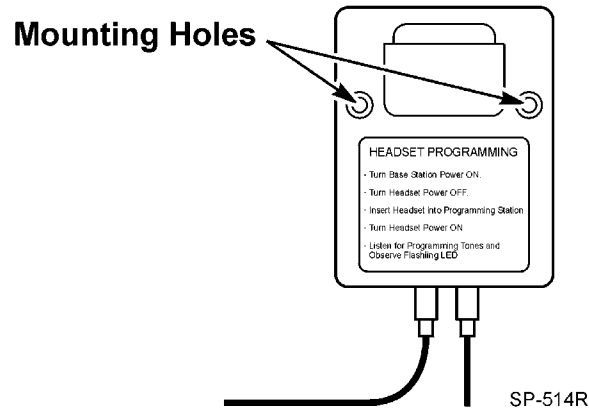

Figure 4. Programming Station Mounting Holes
2. Mount the programming station module using the included screws and anchors. (See Figure 4.)